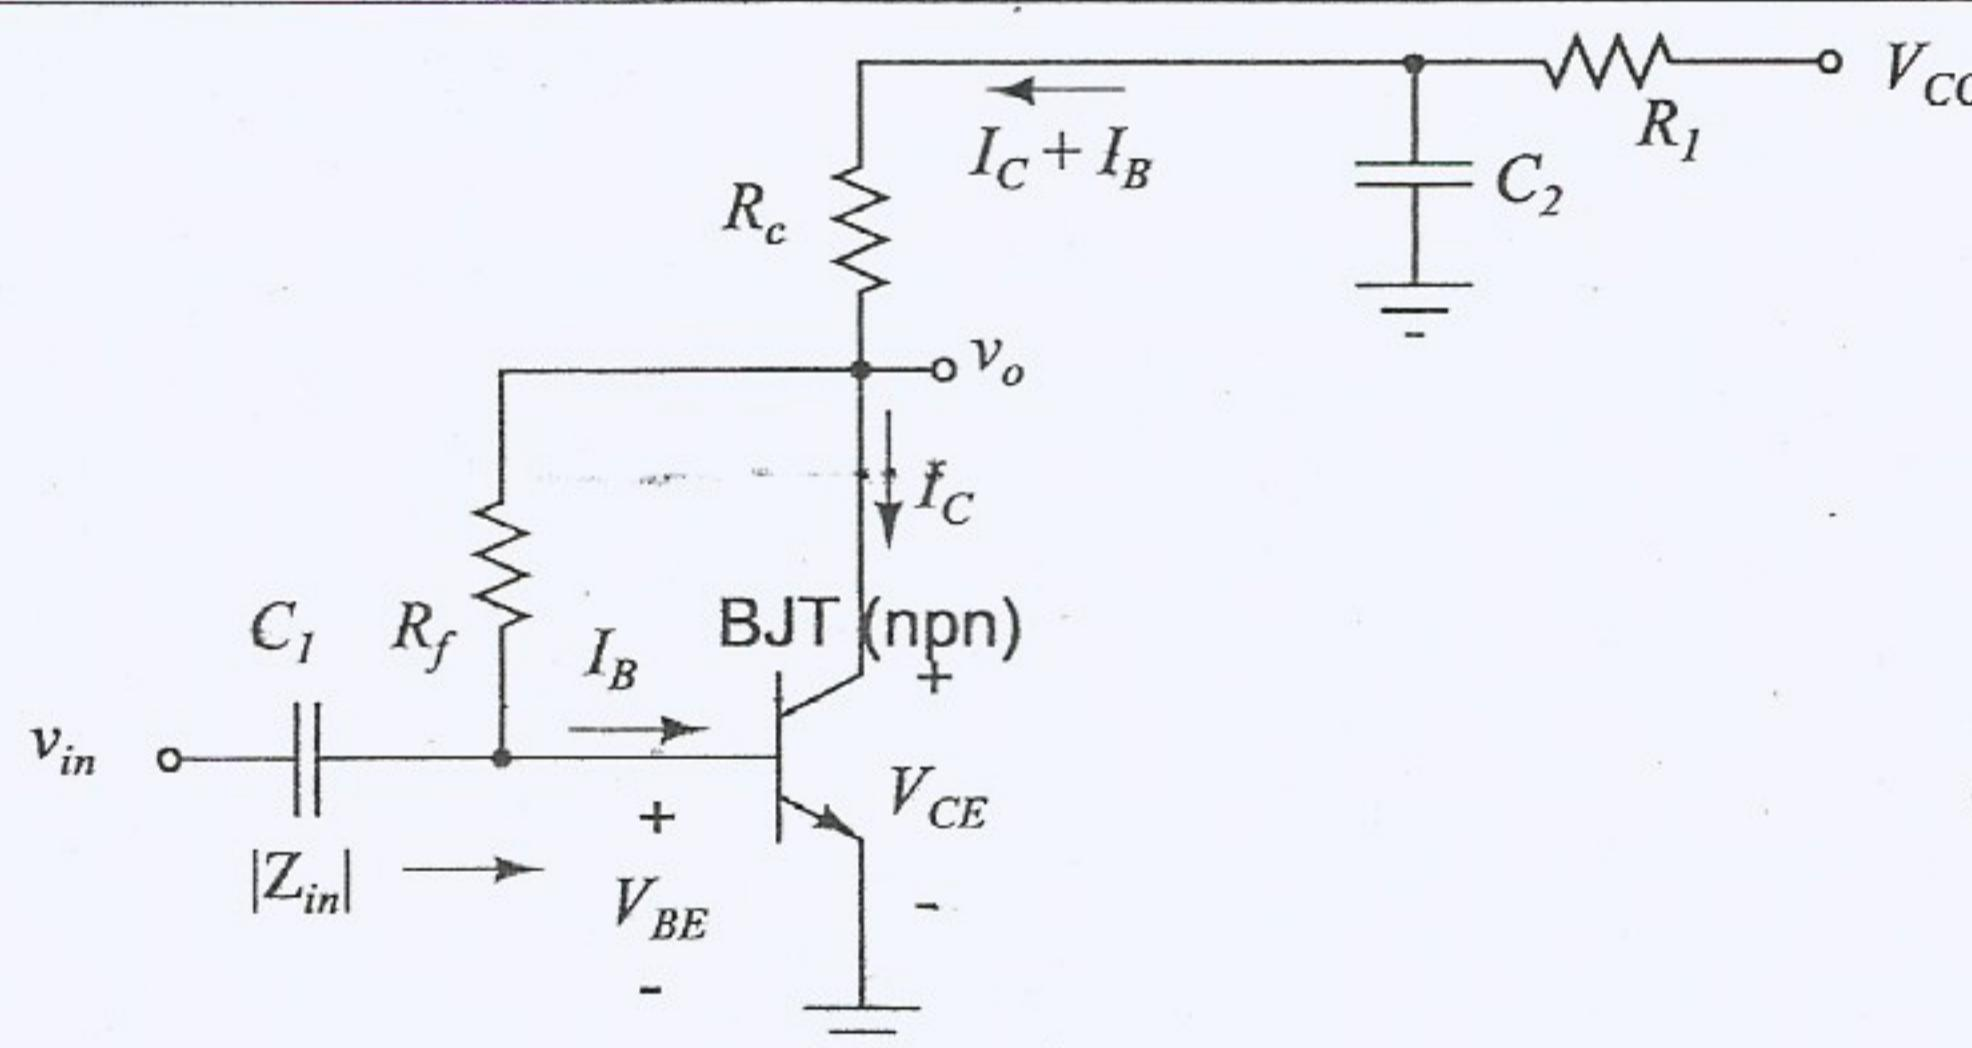

Figure 1: Schematic of an RF amplifier using a BJT.
- An RF amplifier can be built using a BJT. Refer to the circuit given in Fig. 1. TRC-11 uses two of such amplifiers. The values of the resistors and capacitors should be calculated as described below.
A schematic diagram of the first IF amplifier is given in Fig. 1. Mount the three leads of